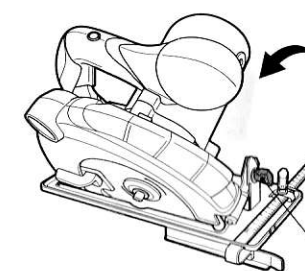

Fig. 6
- > Tighten the fixing screw (4) to secure the angle selected (Fig. 6).